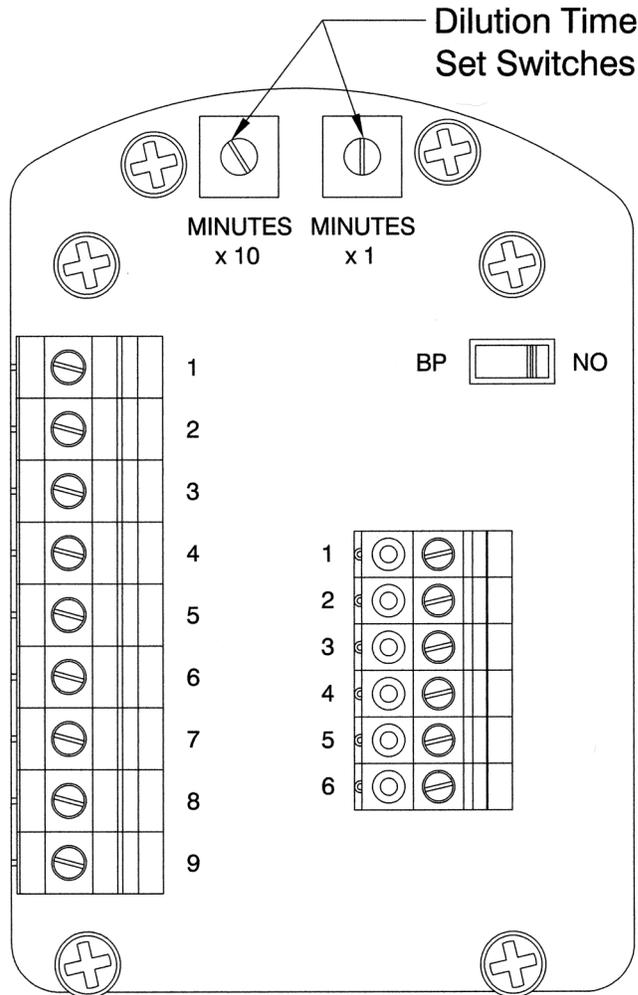

Figure 2
With Automatic Leakage Compensation Purge Gas Inlet Kit solenoid valve wires connected to terminal blocks in CYCLOPS X – Purge Controller, XP Version set automatic dilution time cycle to ensure that at least five (5) times the volume of free space in the electronics enclosure is exchanged before power is automatically applied to the electrical equipment. Refer to Figure 2 for location and details of dilution time switches.